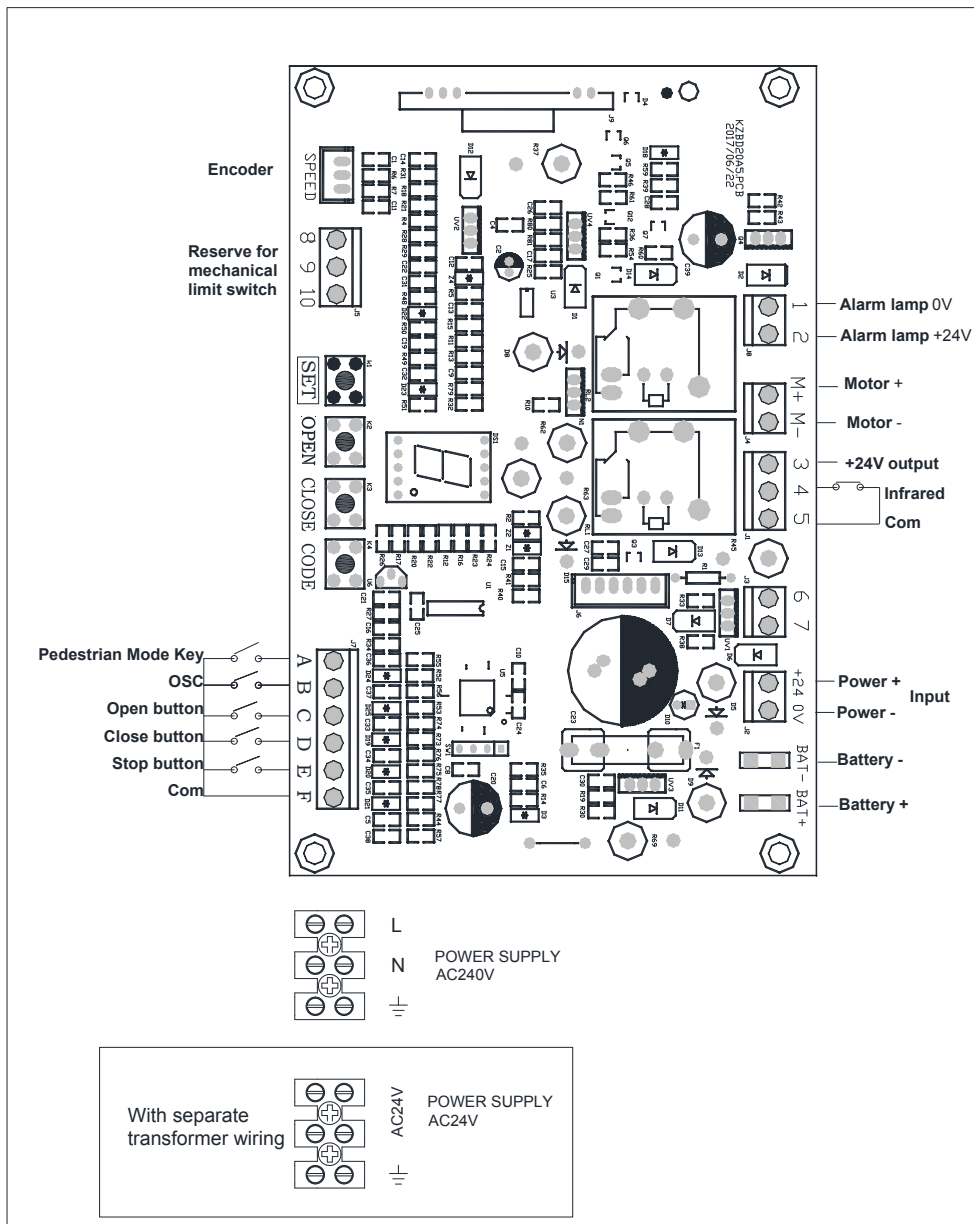

Fig.6 Control board Diagram
1. Press and hold **SET** (see Fig.6 control board), release the button until '1' indicated on the LED display.
- Short circuit the infrared terminal block (see Fig.6 terminal 4 and 5) if the gate only runs in open direction.